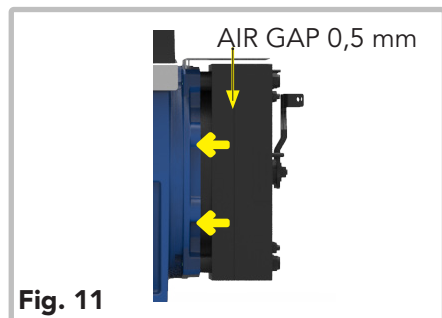

Fig. 11
- **Not powered** (electromagnet not powered): the brake disc is clamped by the movable surfaces (yellow arrows on Fig. 11). In this condition the system does not move.